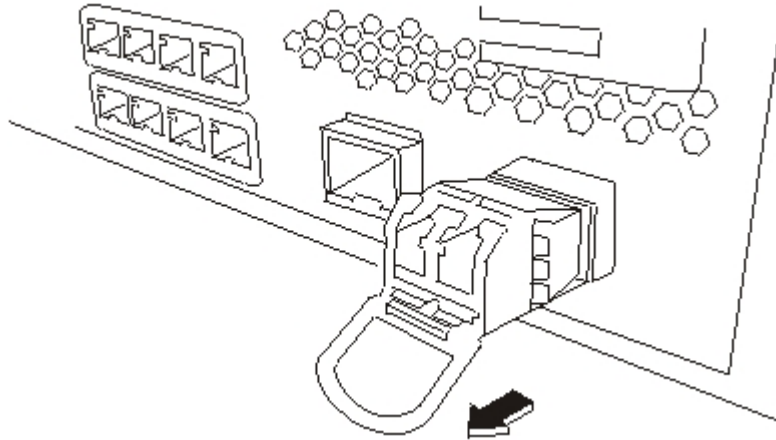

Figure 19. Removing the SFP transceiver
- Pull downward on the blue latch on the front of the transceiver, as shown in Figure 19 on page 49.